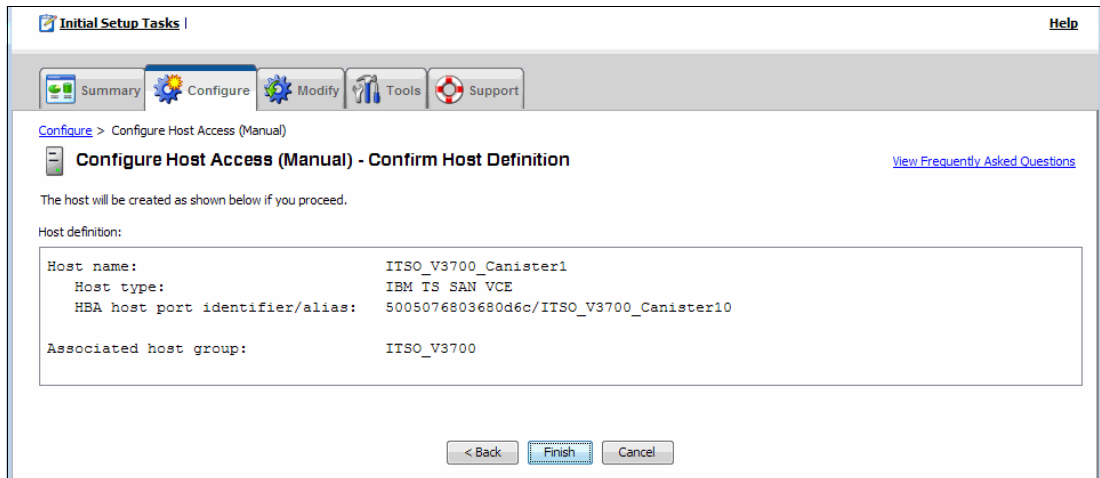

Figure 6-34 Confirming host creation: Storage Manager GUI
- Click **Next** and a confirmation window opens. If everything is correct, click **Finish** to create the host and add it to the host group, as shown in Figure 6-34.